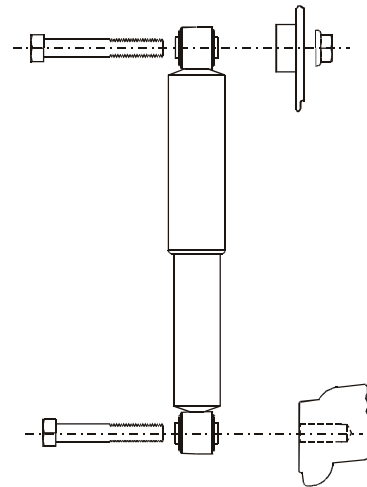

Figure 32 - Shock Absorber Mount
2. Install the bolt into the lower mount of the shock. (Refer to Figure 32).